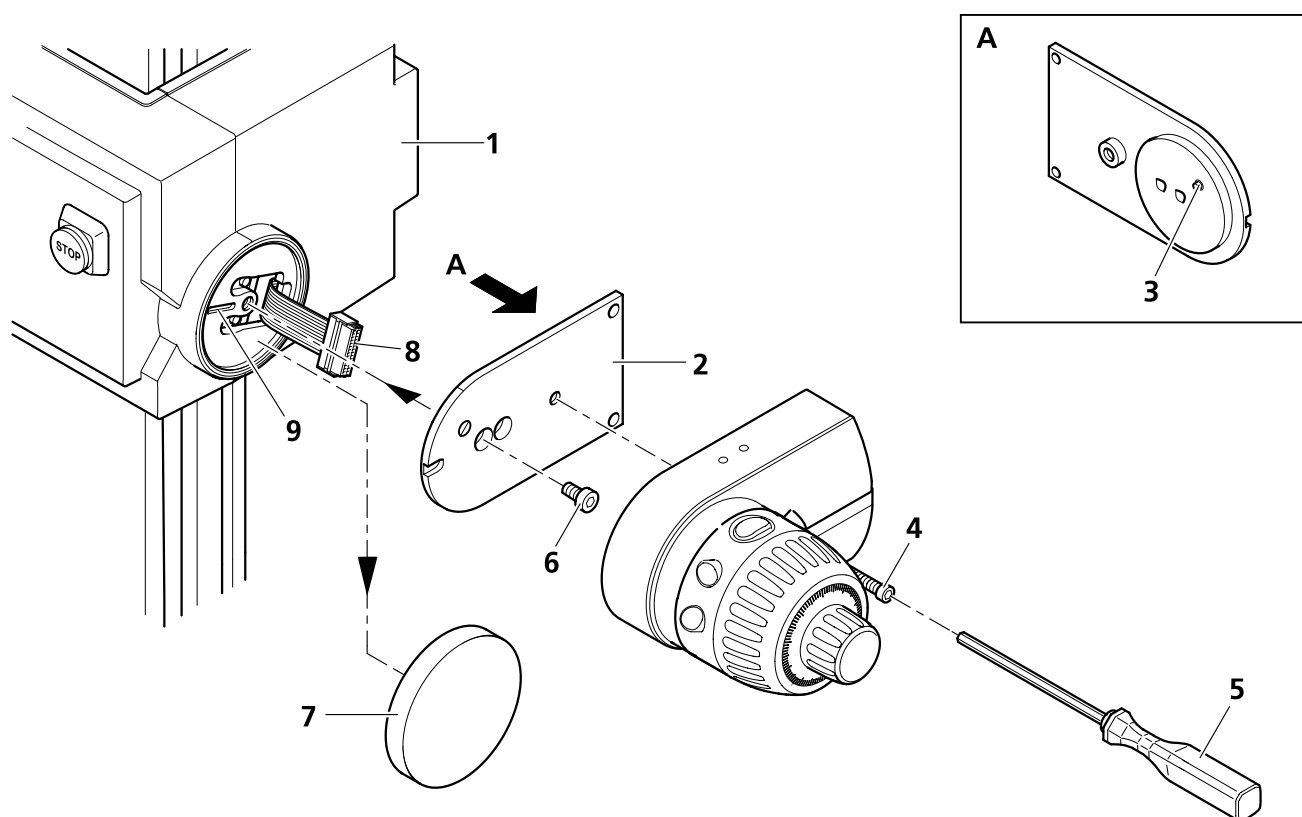
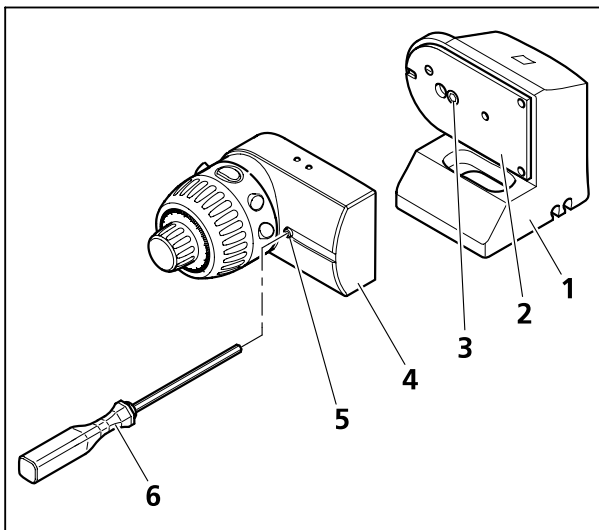

Fig. 28 Mounting the MaRC control unit (e.g.: to the focusing drive)
Fig. 29 Mounting the control unit MaRC to the table-top base
MaRC is a component used to control motor focus and zoom, respectively, and may be mounted to the focusing drive (Fig. 28/1), the microscope body (only on SteREO Discovery.V12/V20) or the table-top base (Fig. 29/1).
- Remove the mounting plate (Fig. 28/2) from the MaRC unit after loosening the Allan screw (SW 3; Fig. 28/4).
- Remove the cover (Fig. 28/7) from the focusing drive (Fig. 28/1) or from the microscope body (only on SteREO Discovery.V12/V20).
- Pull the connecting cable (Fig. 28/8) fully back into the casing without folding it.
- Bolt the mounting plate (Fig. 28/2) with the screw (Fig. 28/6) to the flange of the focusing drive (Fig. 28/1) (or the microscope body), putting the screw through the left hole of the mounting plate. Make sure that the orientation pin (Fig. 28/3) of the mounting plate engages with the groove (Fig. 28/9) provided for this purpose.
- Bolt MaRC by means of the Allan screw (SW 3; Fig. 28/4) to the fixed mounting plate (Fig. 28/2) using the ball-headed screwdriver (Fig. 28/5).
- Bolt the mounting plate (Fig. 29/2) with the screw (Fig. 29/3) to the table-top base (Fig. 29/1), putting the screw through the right hole of the mounting plate.
- Bolt MaRC (Fig. 29/4) with the Allan screw (SW 3; Fig. 29/5) to the fixed mounting plate using the ball-headed screwdriver (Fig. 29/6).